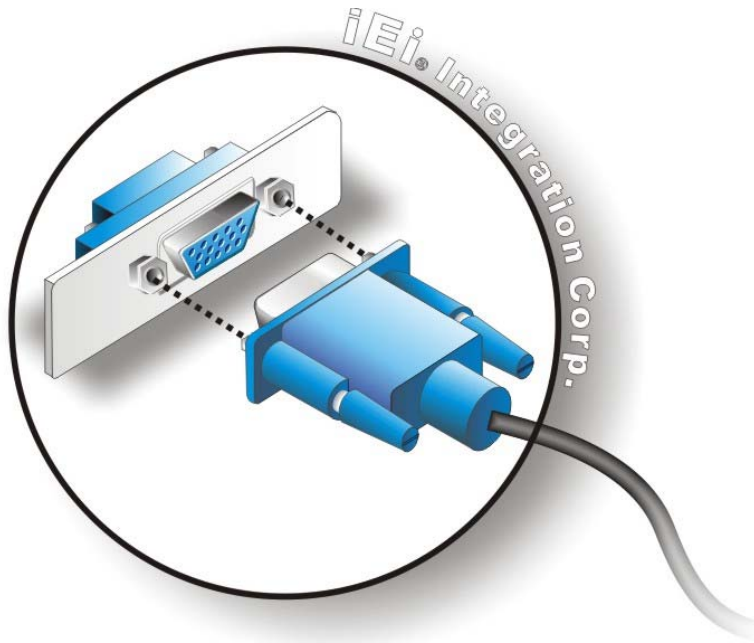

Figure 3-38: VGA Connector
- Step 3:** **Insert the VGA connector.** Once the connectors are properly aligned, insert the male connector from the VGA screen into the female connector on the PPC-FxxA-H81. See **Figure 3-38**.